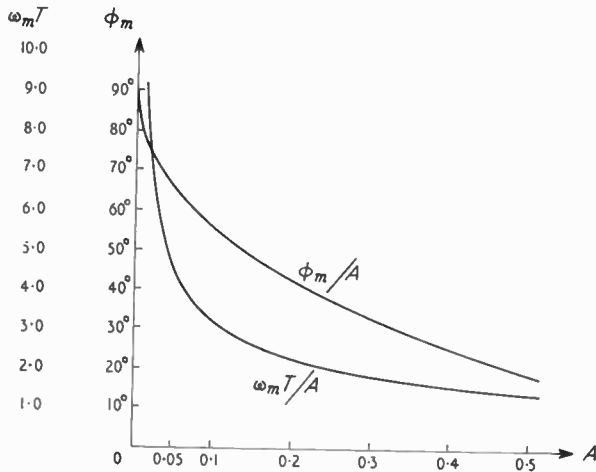

Fig. 4. Graphs showing variation of  $\phi_m$  and  $\omega_m$  with  $A$
In non-dimensional form, from eqn. (2),  $\frac{e_0}{e_1} = \frac{1 + jZ}{1/A + jZ}$ , where  $Z = \omega/a = \omega T$  is a non-dimensional frequency. Graphs showing the variation of  $\omega_m T$  and  $\phi_m$  against  $A$  are given as Fig. 4.